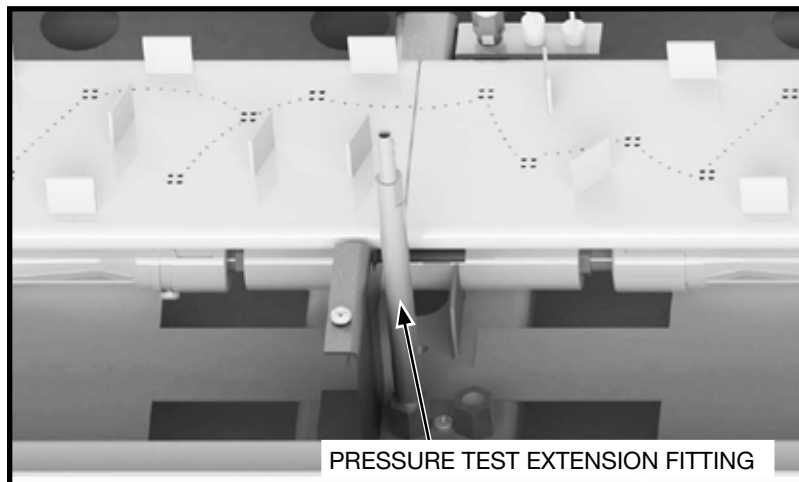

Figure 95: Pressure test extension fitting.
3. Thread the extension test fitting into the open port (Figure 95).